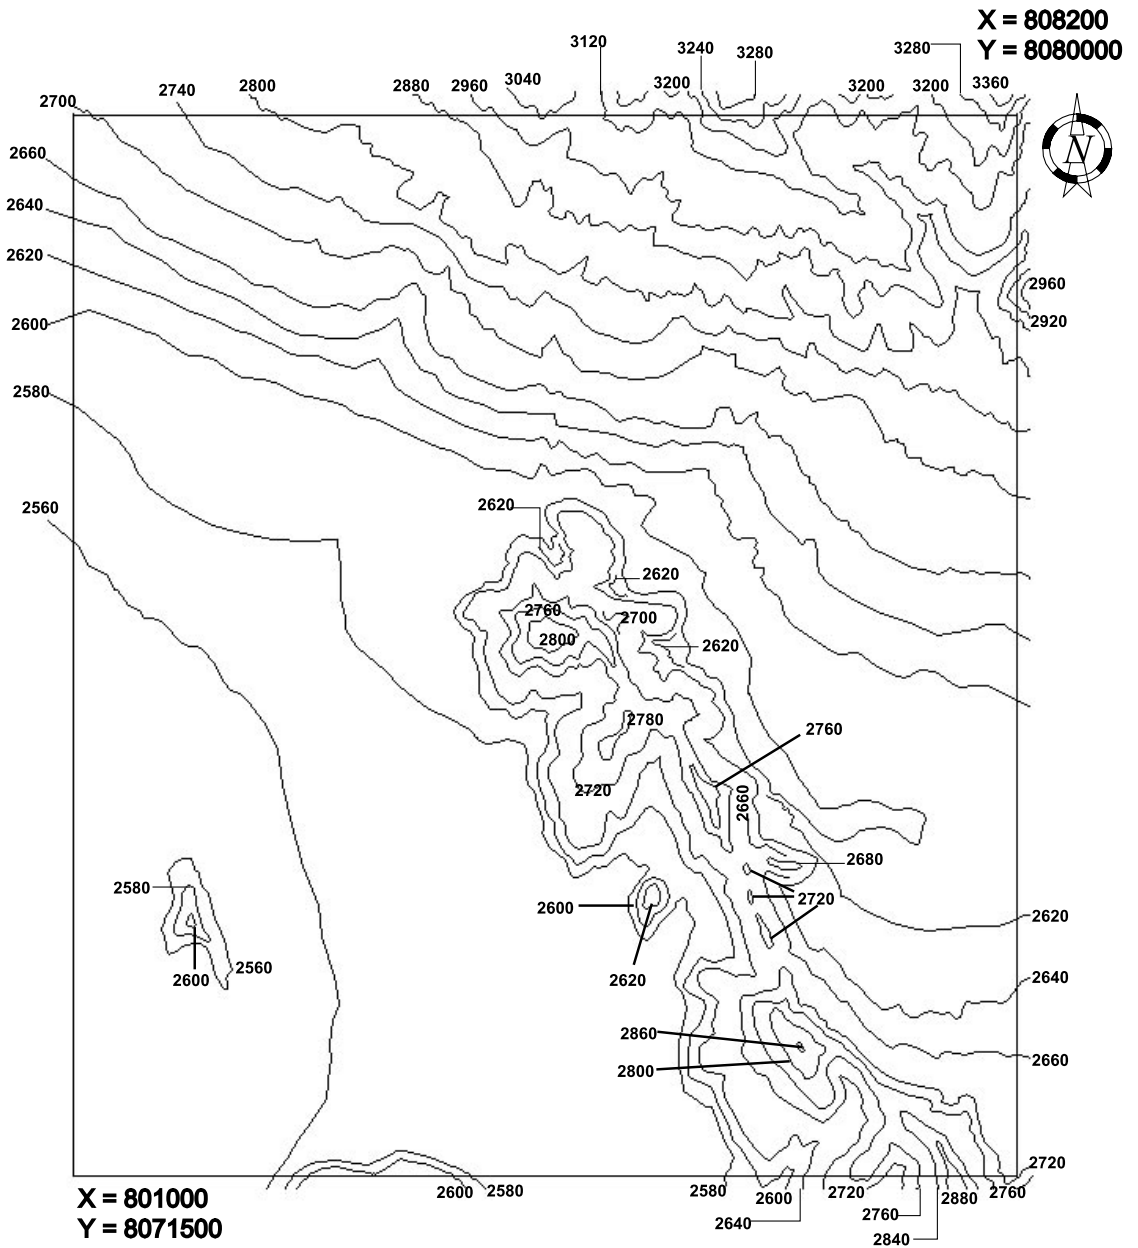

Figure 3.12: The segment map Isolines.
In the previous exercise you have seen how to digitize a segment map with a class domain. Now you will learn how to digitize segments (contour lines) with a value domain. Each contour line is digitized with the corresponding height as the value. The contour value is given in the map (Figure 3.12). This contour map can be used to create a Digital Elevation Model (see chapter 10). Digitizing contour lines is quite a tedious job. To simplify the exercise, only the southern part the contour map of the study area will be digitized. When digitizing, take the following into consideration:
- Make a photocopy of Figure 3.12.
- Remove the photocopy of Figure 3.9 if it is still on the digitizer, position the photocopy of Figure 3.12 in the center of your digitizer, and fasten it to the digitizer.
- Reference the map (Figure 3.12) to the digitizer, similarly, as described in section 3.1.3. Mind: the minimum and maximum X and Y values are different for this map.